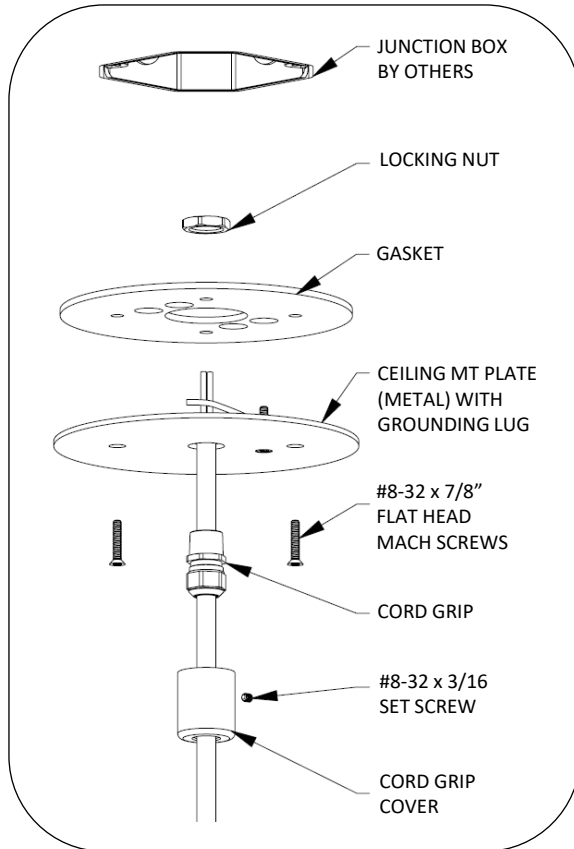
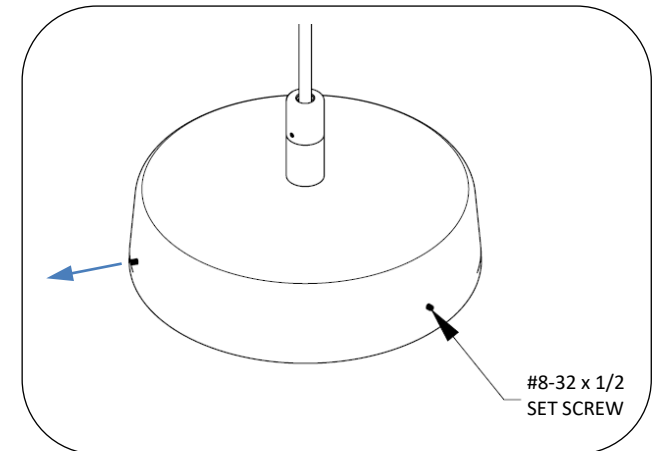

Fig. 1 – secure mt plate and gasket to junction box
Fig. 2 – back out set screws
2. Slide components over cord as shown in Fig. 1. Tighten cord grip in position on the cable, tighten locking nut.
3. Attach cord grip cover using (1) 8-32 x 3/16" set screw.
6. **Note:** luminaire ships assembled. To reduce weight of fixture during installation, the luminaire cartridge can be temporarily removed. To remove luminaire cartridge, see Fig. 2. Back out three set screws to loosen dome. Disconnect the wiring harness plug. Set cartridge aside. Do not fully back out set screws from dome.